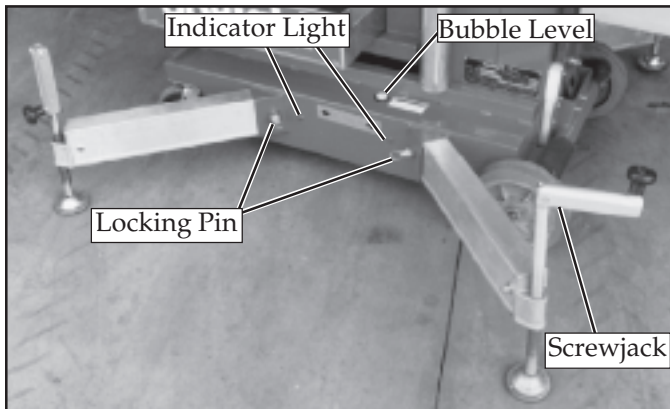

Figure 1: Installing outriggers
2. Insert into outrigger socket in base (Figure 1).
4. Repeat the above steps for all other outriggers. Make sure all four (4) locking pins are engaged.
5. Level the base, centering the bubble in the orbit level on the base by adjusting the screwjacks at the end of each outrigger (Figure 1). **DO NOT** release the tension on an outrigger, by turning counterclockwise, to level base.
6. **All four (4) screwjack pads must be in solid contact with a firm surface and each outrigger indicator light must be lit before the platform is elevated.**